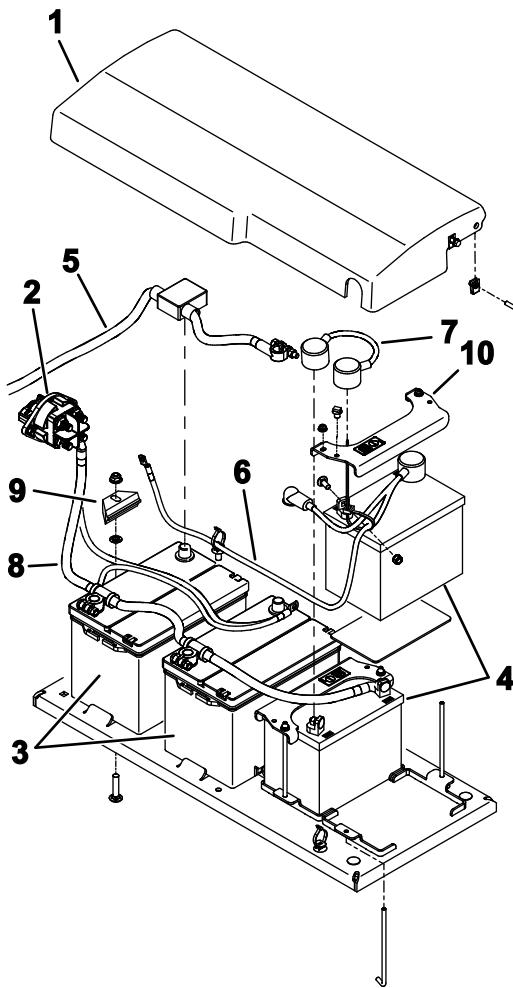

Figure 103
6. Remove the fasteners that secure the battery cover to the machine and remove the cover (Figure 103).
9. Carefully remove the batteries from the machine (Figure 103).
1. Secure the batteries with the hold downs (Figure 103).